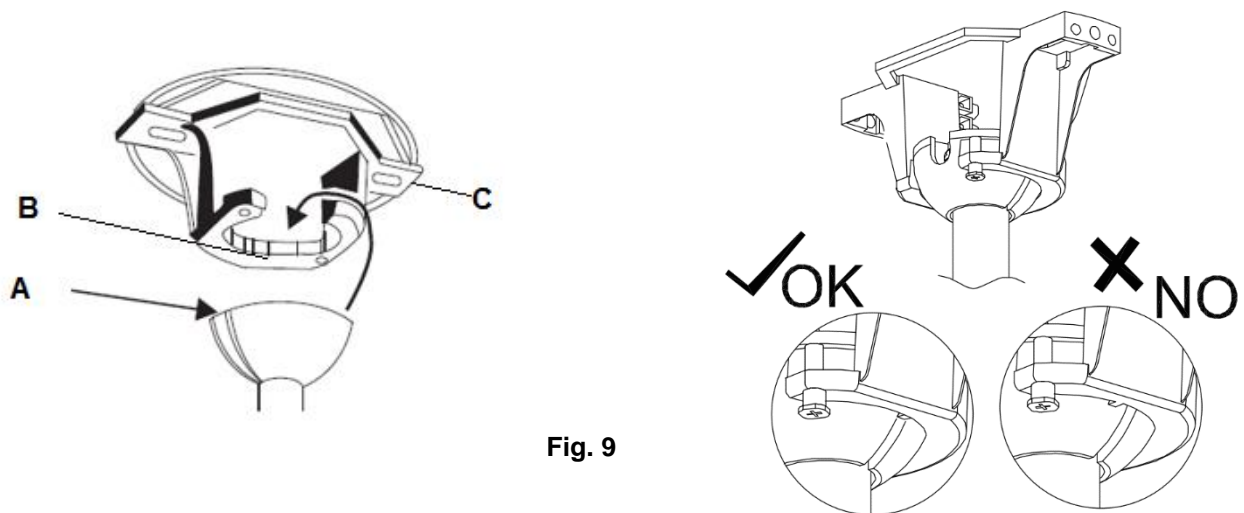

Fig. 9
Lift the fan assembly onto the mounting bracket. Ensure the key slot (A) of the hanger ball is positioned on the key pin (B) of the mounting bracket (C) to prevent the fan from rotating when in operation. (Fig. 9)
Hang the fan (Refer to “hanging the fan” Fig. 9, page 8).